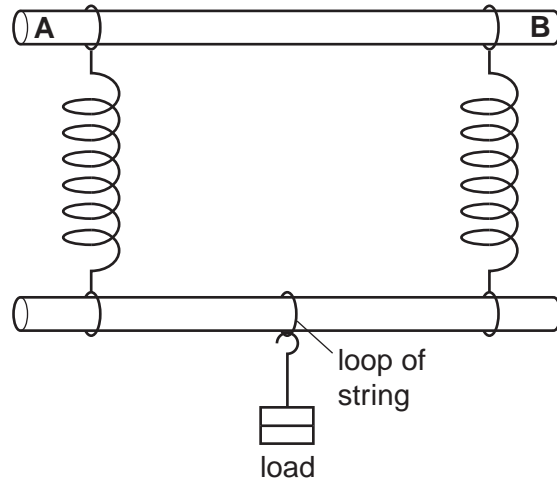

Fig. 1.2
- (vi) Loop of string to support load as shown in Fig. 1.2.
2. The second wooden rod should be similar to the first and capable of supporting the same load as the first rod and the springs as shown in Fig. 1.2.